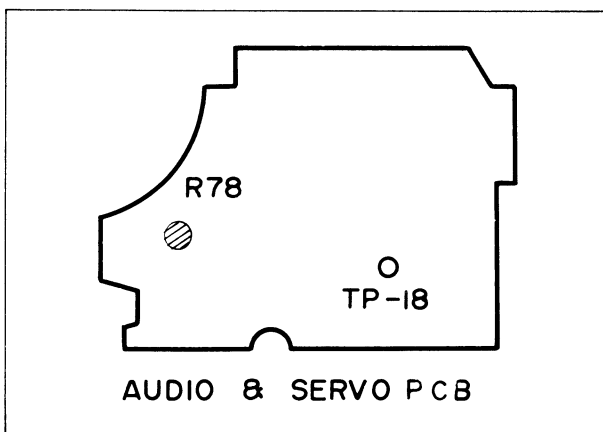
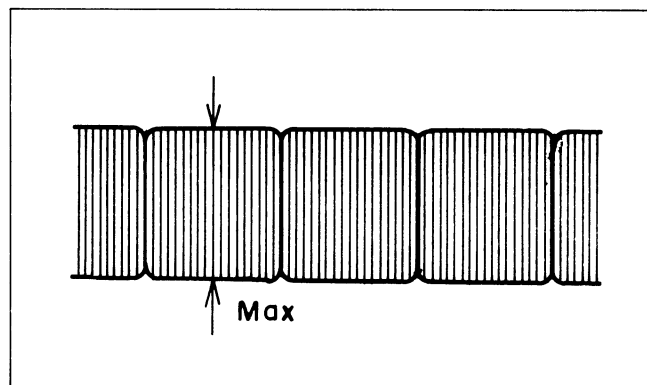

Fig. 5-13. Tracking adjustment
Fig. 5-14. Playback FM waveform
6. Refer to Fig. 5-13. Connect the oscilloscope to TP-18 (P.B. FM) on the Audio and Servo printed circuit board and play back the tape which was recorded according to step 4, above. Adjust R78 (Sub Tracking) so that the FM output becomes maximum, as shown in Fig. 5-14. At this time, set the tracking potentiometer to the Auto position.
7. Next, play the alignment tape, keeping the tracking potentiometer at the "OFF" (preset) position. Move the control head to left and right until the playback FM signal is maximum, as in Fig. 5-14.